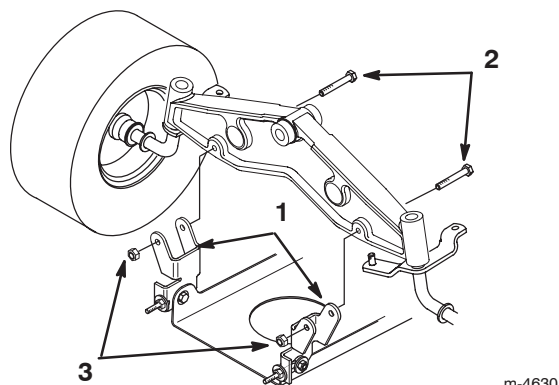

Figure 40
4. Install the mower pivot mount brackets onto the front axle with the bolts and locknuts (Fig. 40).